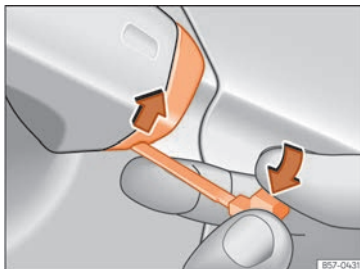

Fig. 56 Driver's door handle: pry the cover open.
- Insert the emergency key into the lower opening in the cover on the driver door handle then lift the bottom cover upwards » Fig. 56.